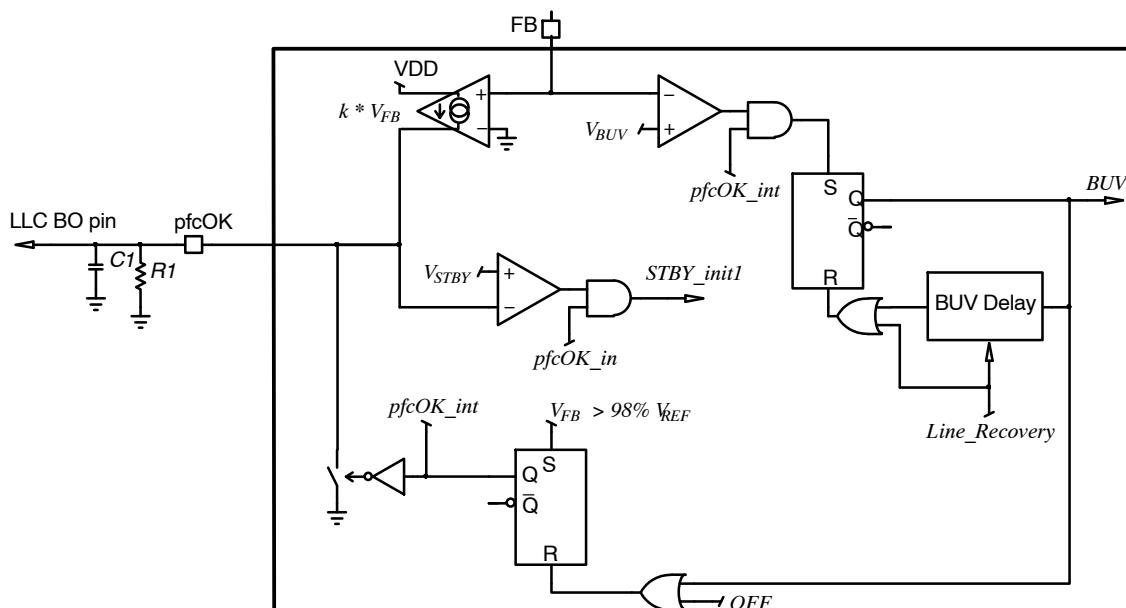

Figure 17. *pfcOK* Block
Practically, the *pfcOK* pin is grounded when the PFC stage enters operation and remains in low state until the output voltage has nearly reached its nominal level (practically when V_{FB} reaches 98% V_{REF}). At that moment, the *pfcOK* pin sources a current proportional to the feedback voltage ($k \cdot V_{FB}$). See Figure 17. Placing an external resistor between the *pfcOK* and GND pins, we obtain a voltage V_{pfcOK} which is proportional to the bulk voltage and can serve as a feedforward signal for the downstream converter. k typical value is 10 $\mu\text{A}/\text{V}$ so that the *pfcOK* pin typically sources 25 μA when the FB voltage is 2.5 V (regulation level).
The high voltage (HV) pin is a multi-functional pin, which in addition to the startup current source, provides access to the brownout, line sag, line range detectors and X2 capacitor discharge. The brownout / line-sag detector detects too low line levels and the line range detector determines the presence of either 110 V or 220 V ac mains. Depending on the detected input voltage range, the NCP1618 internally adjusts device parameters to optimize the system performance. Line and neutral are diode “ORed” before connecting to the HV pin as shown in Figure 17. The diodes prevent the pin voltage from going below ground.
- Resets the BUV timer. It is because a long line-sag event is likely to cause a BUV detection. When a BUV fault is detected, no restart is possible until the BUV timer has elapsed. If a BUV fault is detected during a line-sag sequence, we want operation to be resumed as soon as the line recovers (see Figure 17).